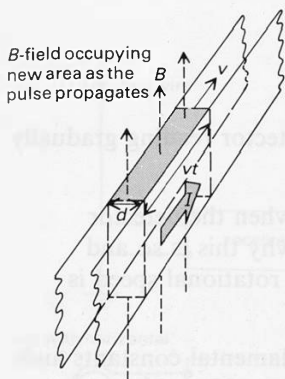

Figure J138
- j** Figure J138 illustrates the B -field occupying new area as the pulse propagates. An area dvt has new B -field at right angles to it in time t . What is the new flux through this area? What is the rate of change of flux?